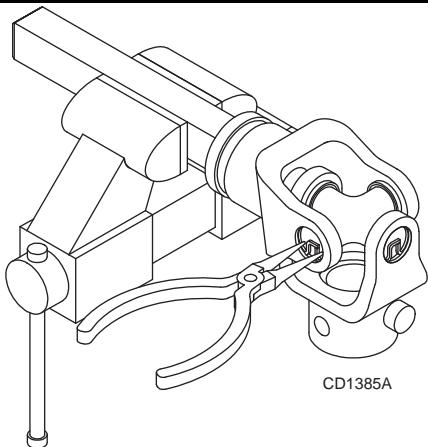

Figure 27
- Remove external snap rings from yokes in four locations as shown in Figure 27.